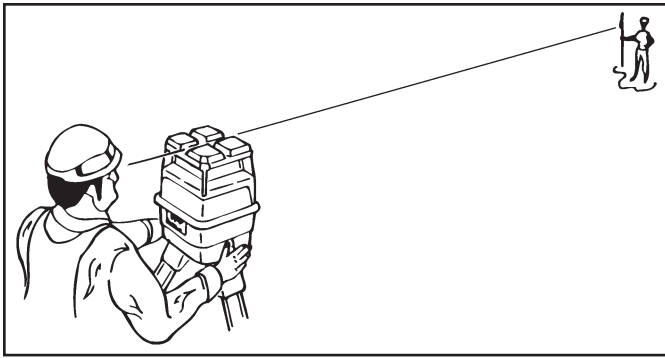

Figure 21. Sight over Rotating Laser
4. Roughly align one of the axis to the grade stakes by sighting over the top of the Rotating Laser (Refer to Figure 21).